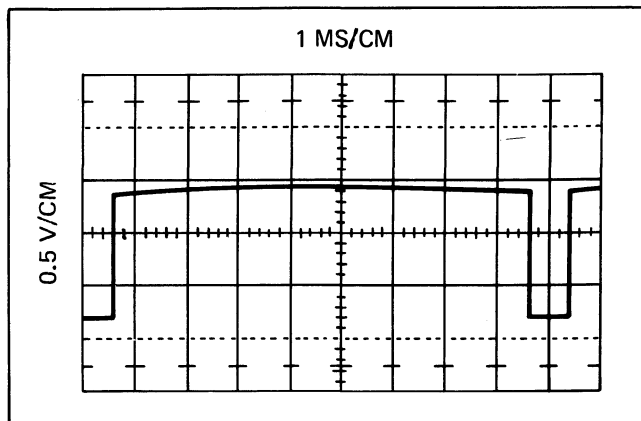

Figure 4-21. Pre-Regulator Q1 Waveform on OPR
9. The oscilloscope waveform should appear as in Figure 4-21.